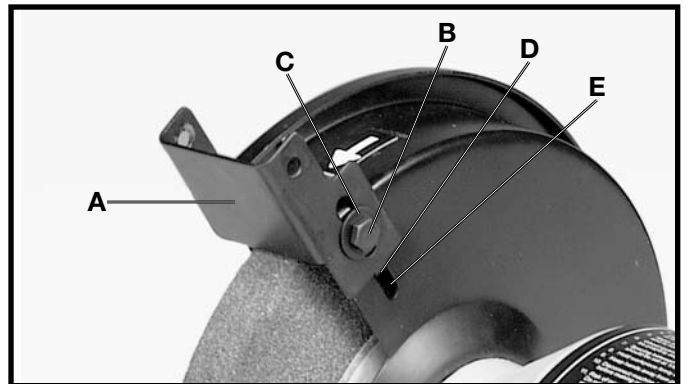

Fig. 5
The spark guard (A) Fig. 5, is mounted to the side of each wheel guard, using the 1/4-20x1/4" hex head screw (B) and 1/4" flat washer (C) as shown. **NOTE: The tab (D) Fig. 5, on the side of the spark guard (A), must be placed in slot (E), before attaching the spark guard (A) to the grinder.** The spark guard (A) should be adjusted as close as possible to the grinding wheel so that sparks never strike the operator's hand. As the wheels wear down, the spark guard (A) should be adjusted accordingly.